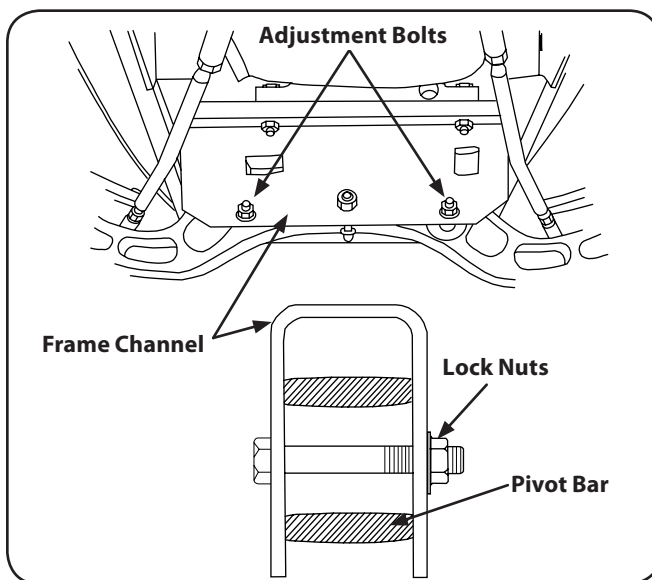

Figure 6-14
2. Move the ends of the pivot bar up and down to check for binding. If binding is present, loosen the lock nuts until binding is eliminated. See Fig. 6-14